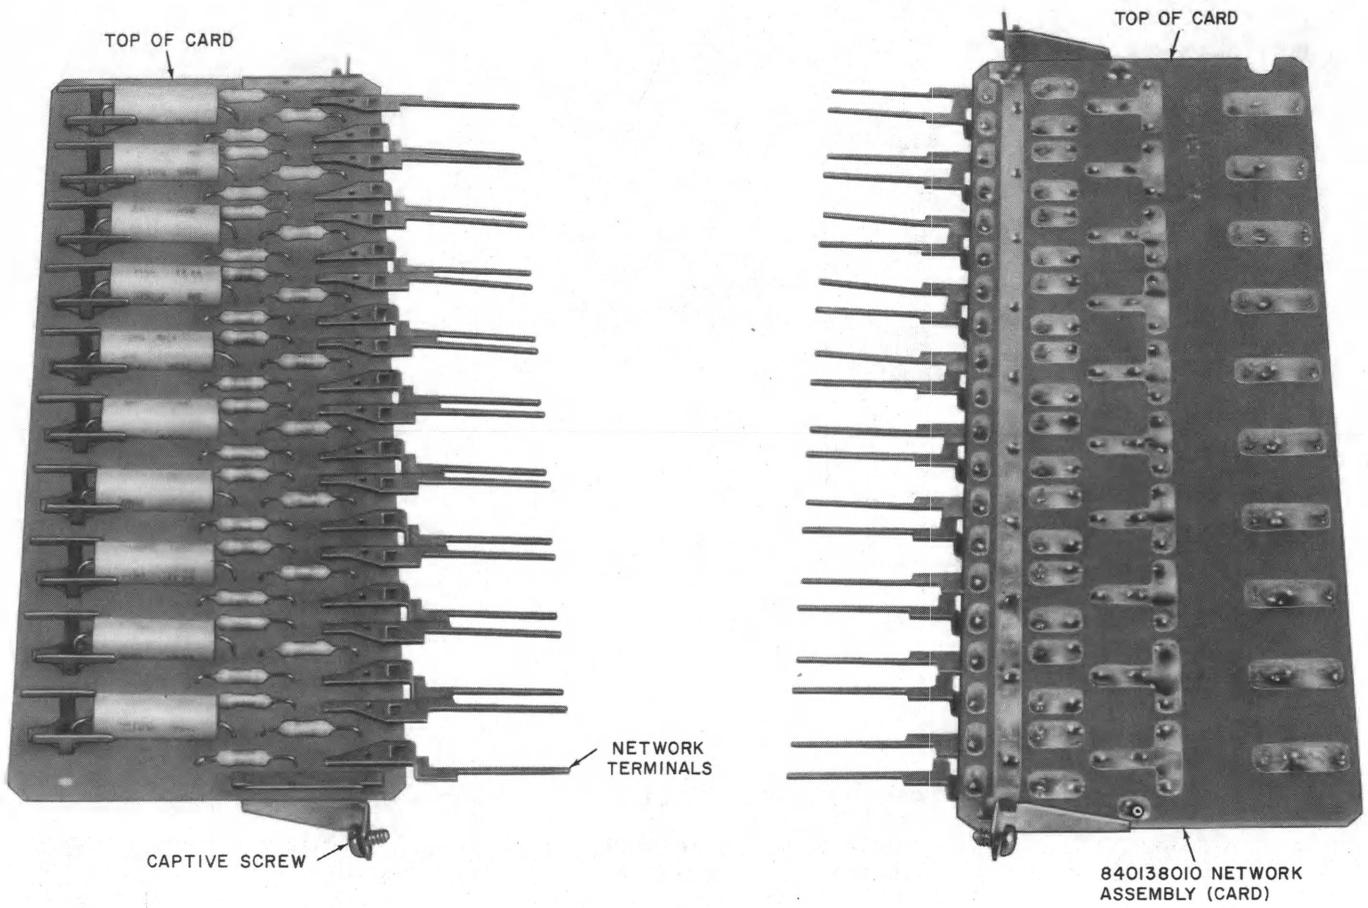

Fig. 5—840138010 Network Assembly
- (2) 840138010 network assembly for intermediate vintage number network frames. See Fig. 5.